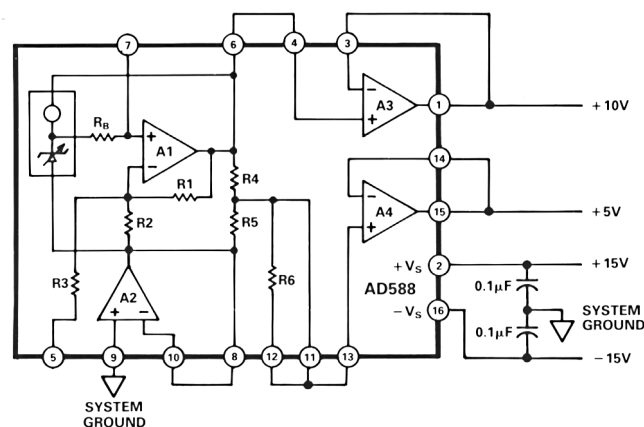
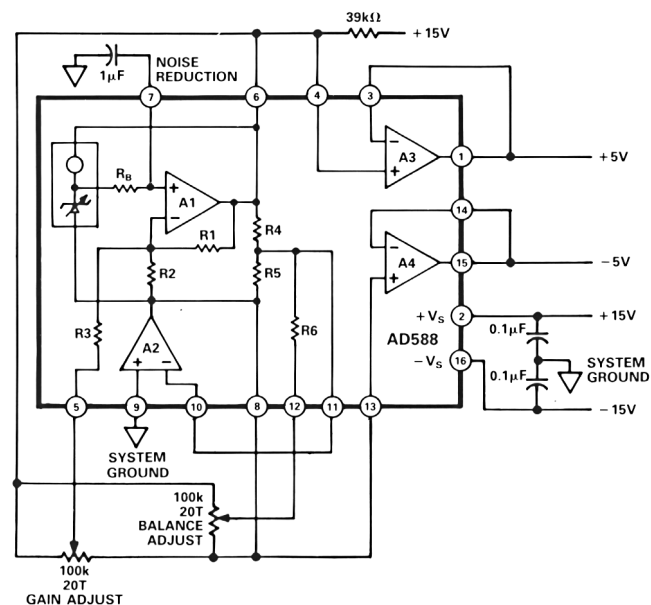
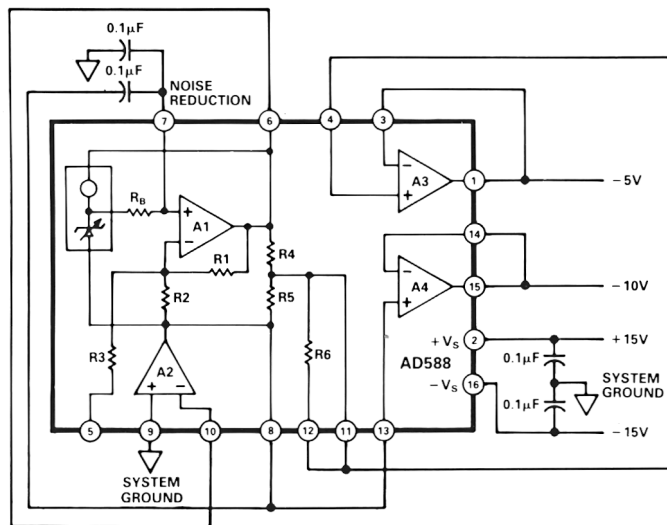

Figure 2a. +10 V Output
Figure 2b. +5 V and –5 V Outputs
Figure 2c. -10 V Output
+10 V Figure 2a
-10 V Figure 2c
+5 V, -5 V, ±5 V Figure 2b
The AD588 can be configured to provide +10 V and -10 V reference outputs as shown in Figures 2a and 2c respectively. It can also be used to provide +5 V, -5 V or a ± 5 V tracking reference as shown in Figure 2b. Table I details the appropriate pin connections for each output range. In each case, Pin 9 is connected to system ground and power is applied to Pins 2 and 16.
As indicated in Table I, a +5 V buffered output can be provided using amplifier A4 in the +10 V configuration (Figure 2a). A -5 V buffered output can be provided using amplifier A3 in the -10 V configuration (Figure 2c). Specifications are not guaranteed for the +5 V or -5 V outputs in these configurations. Performance will be similar to that specified for the +10 V or -10 V outputs.
Figure 2b shows GAIN and BALANCE trims in a +5 V and –5 V tracking configuration. A 100 k Ω 20-turn potentiometer is used for each trim. The potentiometer for GAIN trim is connected between Pins 6 (V_{HIGH}) and 8 (V_{LOW}) with the wiper connected to Pin 5 (GAIN ADJ). The potentiometer is adjusted to produce exactly 10 V between Pins 1 and 15, the amplifier outputs. The BALANCE potentiometer, also connected between Pins 6 and 8 with the wiper to Pin 12 (BAL ADJ), is then adjusted to center the span from +5 V to –5 V.
If further noise reduction is desired, an optional capacitor may be added between the NOISE REDUCTION pin and ground as shown in Figure 2b. This will form a low-pass filter with the 4 k Ω R_B on the output of the Zener cell. A 1 μF capacitor will have a 3 dB point at 40 Hz and will reduce the high frequency (to 1 MHz) noise to about 200 μV p-p. Figure 4 shows the 1 MHz noise of a typical AD588 both with and without a 1 μF capacitor.
Note that a second capacitor is needed in order to implement the NOISE REDUCTION feature when using the AD588 in the -10 V mode (Figure 2c.). The NOISE REDUCTION capacitor is limited to 0.1 μF maximum in this mode.